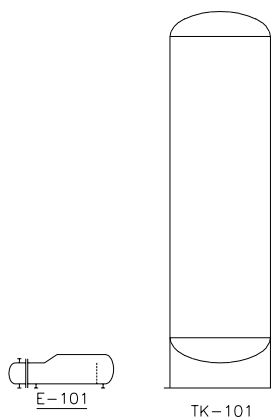

Figure 2-45 P&ID after placing the vessel and the heat exchanger
2. Enter **1.5** as the scale factor; the **Assign Tag** dialog box is displayed. Enter **101** in the **Number** edit box and make sure that the **Place annotation after assigning tag** check box is selected. Next, choose the **Assign** button and specify the position of the annotation tag near the vessel, as shown in Figure 2-45.
3. Choose the **TEMA type BKU Exchanger** from the **TEMA Type Exchangers** area in the **Equipment** tab of the **TOOL PALETTES - P&ID PIP** and place it at the point (7,5). Next, assign tag **E-101** to the heat exchanger. Figure 2-45 shows the P&ID after placing the vessel and the heat exchanger.